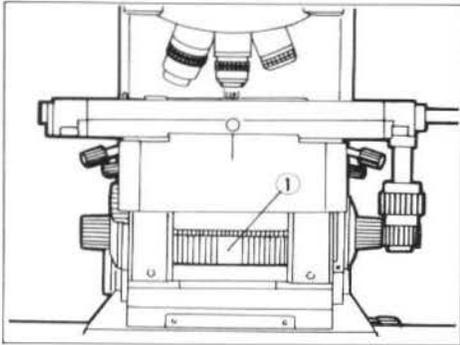

Fig. 26
Manually rotate the knurled ring ① of the turret. (Fig. 26)